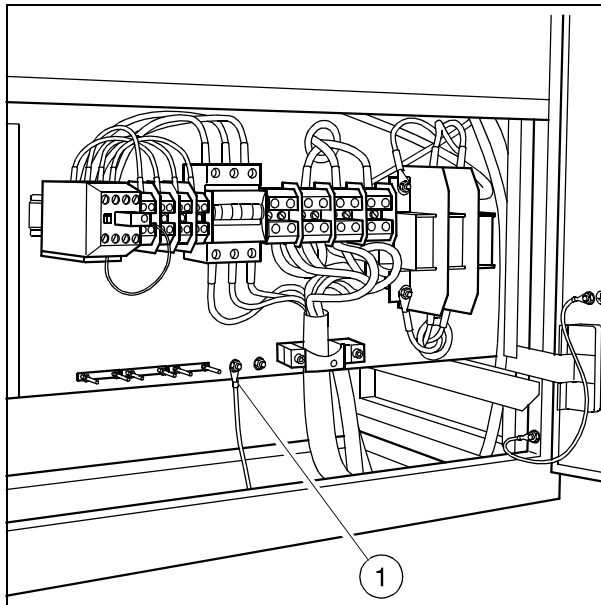

Fig. 30:
- Connect the protective ground wires of the tube assemblies and of the components (units and options) and, if configured, the console base to the protective ground wire terminals (Fig. 30 / p. 45) at M16.